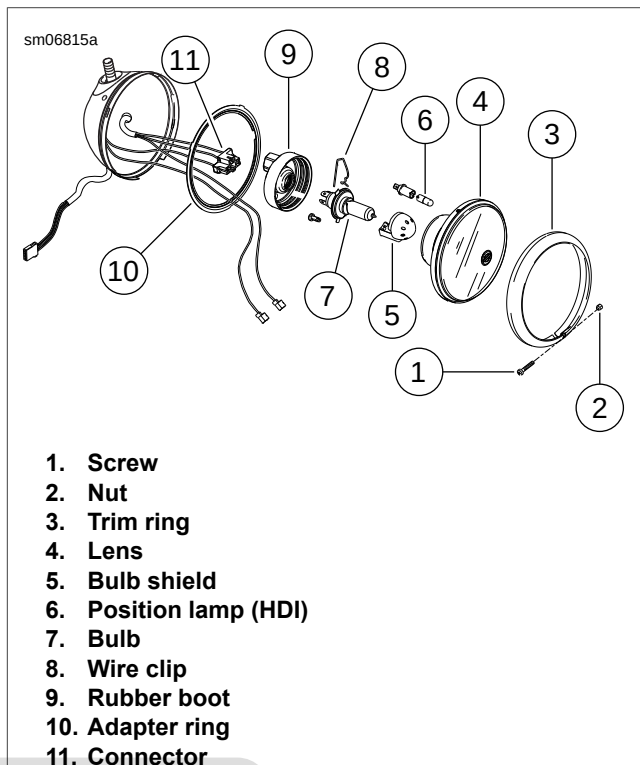

Figure 6-35. Headlamp Assembly: XL 883L/N/R, XR 1200X
- a. **XL 883L/N/R, XR 1200X:** See Figure 6-35. Remove the screw (1), nut (2) and the trim ring (3).